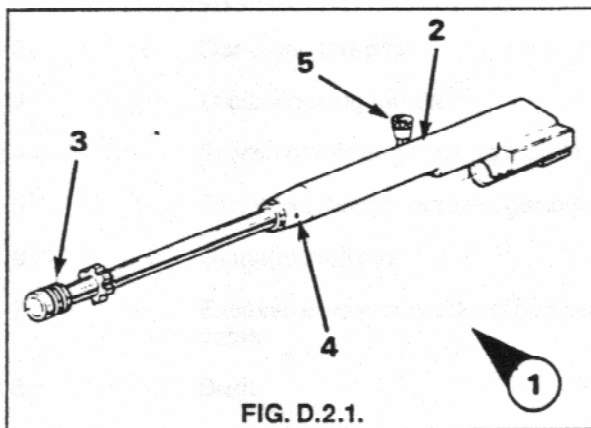

FIG. D.2.1.
2. The bolt carrier assembly consists of the following components, as illustrated in Fig. D.2.1.